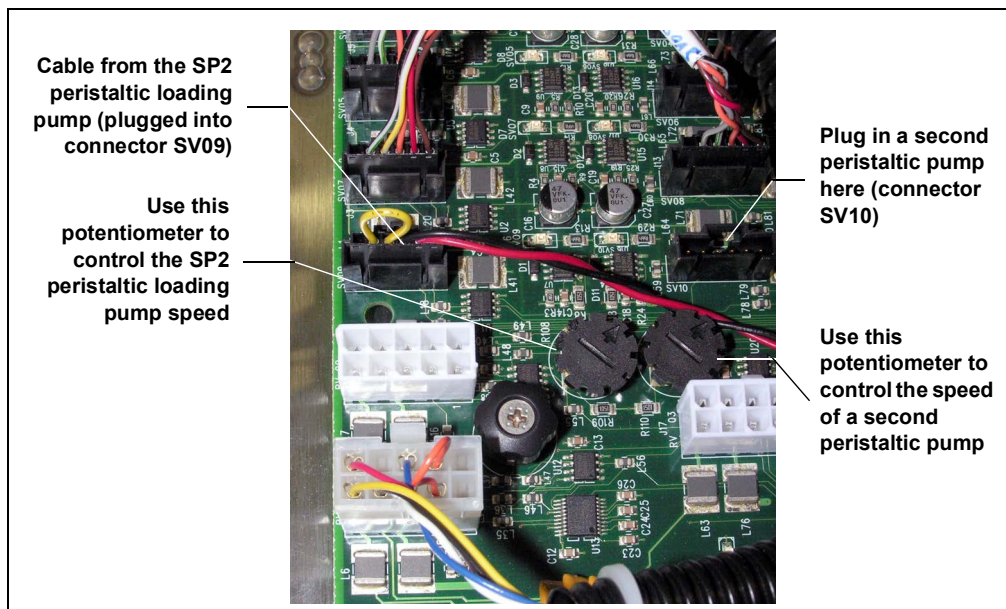

Figure 10-12. Main SP Electronics Board: Cable Connections and Potentiometers for Peristaltic Pumps
4. Locate the two potentiometers on the left side of the main SP electronics board (see Figure 10-12). The potentiometer farthest to the left (at position **R108** on the board) controls the speed of the peristaltic loading pump installed in an SP2.
6. When two peristaltic loading pumps are installed in the SP, the cable for the second pump is plugged into position **SV10** on the main SP electronics board (see Figure 10-12). The potentiometer on the right (at position **R107** on the board) controls the speed of the second pump. Adjust the pump speed as required (see Step 4).